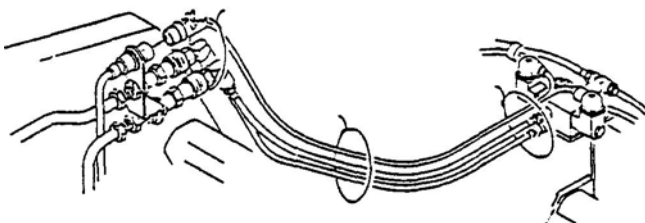

FIG. 19
- (11) Plug the connector on the dozer control cord into the connector on the Loader frame. Make sure the connector is locked in place.
- (12) Tie the two hoses and the control cord together using at least three of the nylon ties supplied as shown. See FIG. 19